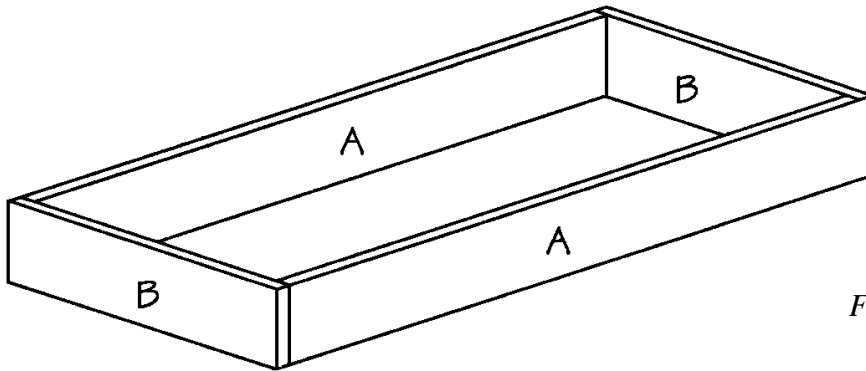

Figure 1
1. Cut four Long Sides (A) from 1 x 4 pine, each measuring 34-1/2 inches.
2. Cut four Short Sides (B) from 1 x 4 pine, each measuring 15 inches.
3. Place two of the Long Sides (A) on edge parallel to each other, and 13-1/2 inches apart. Fit two of the Short Sides (B) over the ends of the Long Sides (A) to form a rectangle measuring 36 x 15 inches, as shown in *Figure 1*. Apply glue to the meeting surfaces, and screw through the face of the Short Sides (B) into the ends of the Long Sides (A) using 1-5/8" wood screws.
5. Cut four Legs (C) from 2 x 2 pine, each measuring 32 inches.